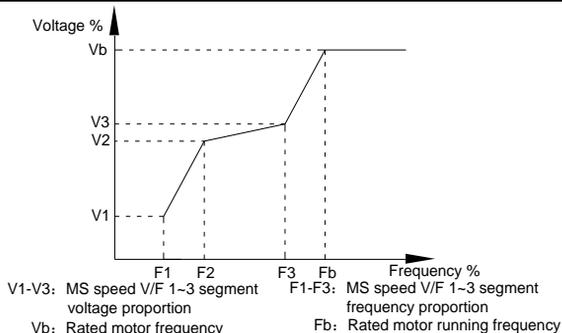

Fig. 5-4 Multi-point V/F curve setup schematic diagram
1) It must be set as follows:  $V1 < V2 < V3$ ,  $F1 < F2 < F3$ . Fig5.4 is schematic diagram for multi-point V/F curve.